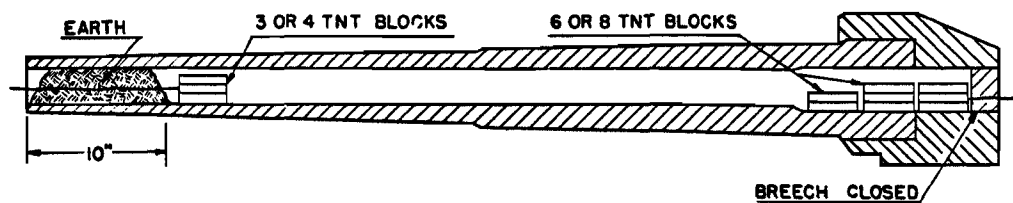

FIGURE 13.—Demolition by means of TNT blocks.
c. *Demolition by TNT blocks.*—Insert 6 to 8 one-half pound TNT blocks in the chamber of the gun and 3 or 4 additional one-half pound blocks in the bore of the gun near the muzzle (see fig. 13). Close the breechblock. Plug the muzzle end of the tube tightly with earth to a distance of approximately 10 inches from the muzzle. Detonate the TNT charges simultaneously. The firer should be under cover. The danger zone is about 500 yards. For instructions on the wiring and firing of TNT, see FM 5-25.